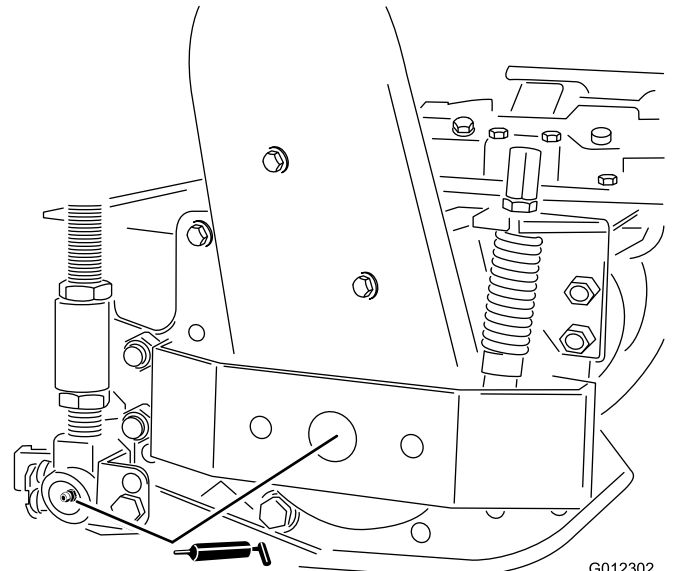

Figure 28
- Cutting unit reel and roller bearings (Figure 28)